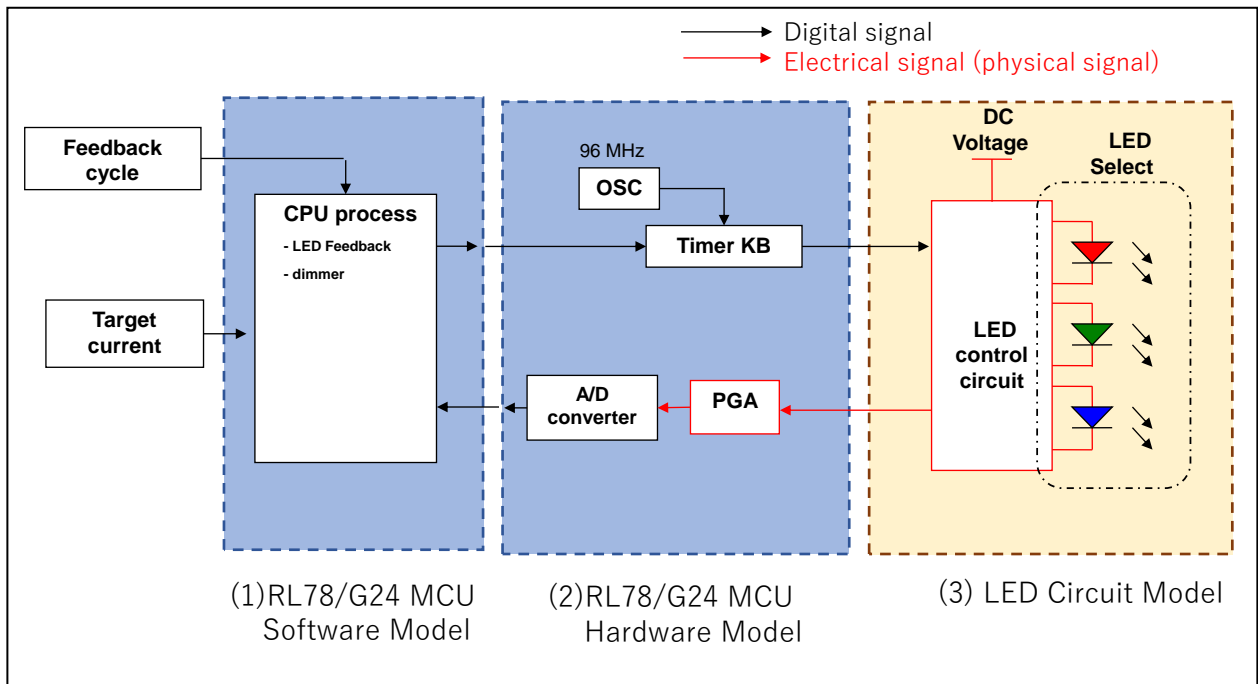

Figure 3.1. Block diagram of LED lighting control system simulation
Block diagram of the LED lighting control system simulation is shown in Figure 3.1.
The functions of (1) through (3) in Figure 3.1 are as follows.
- (1) RL78/G24MCU Software Model
- (2) RL78/G24MCU Hardware Model
- (3) LED Circuit Model